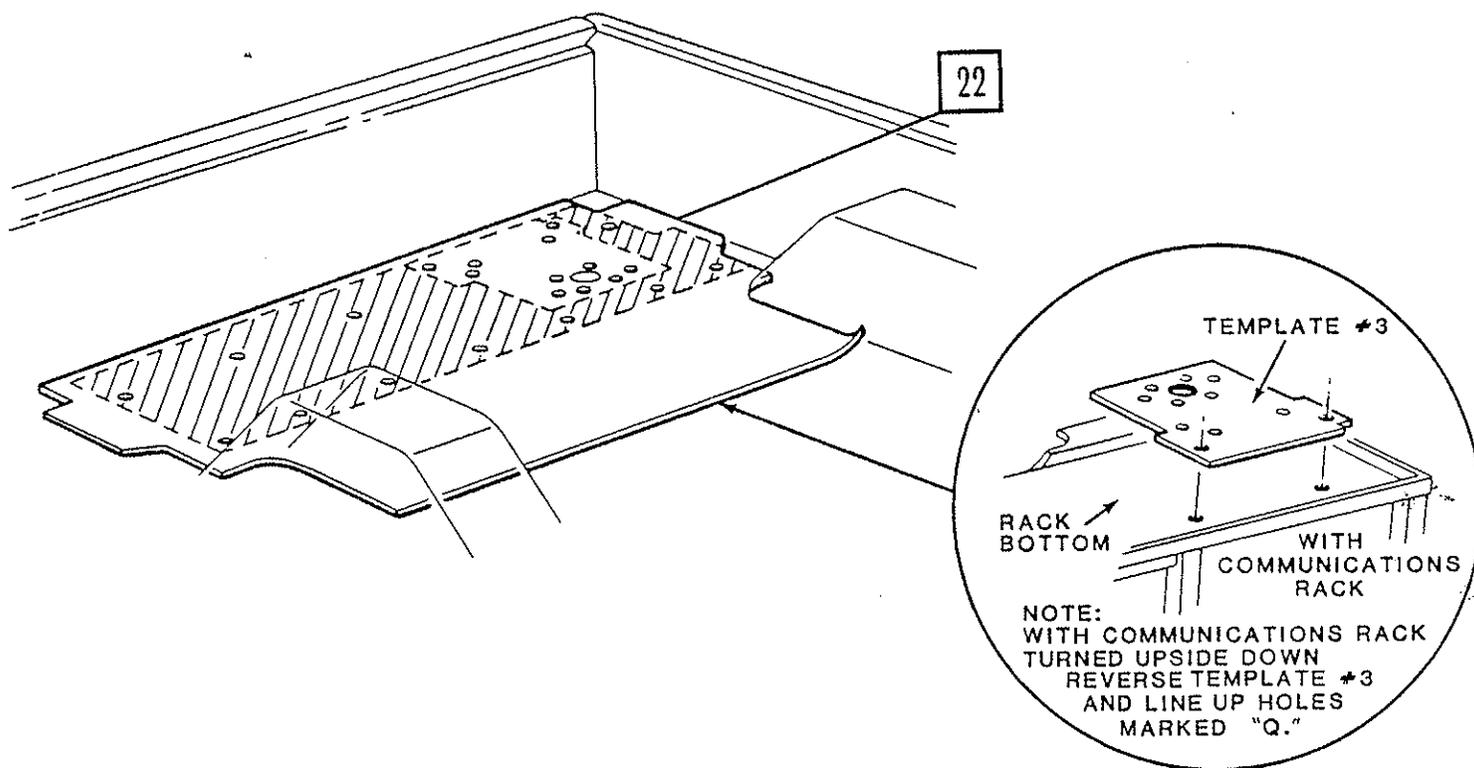

Figure 4.
24. Turn communications rack upside down and aline template to bottom of rack. Center punch, remove template and drill holes to sizes indicated on template (Figure 4.).